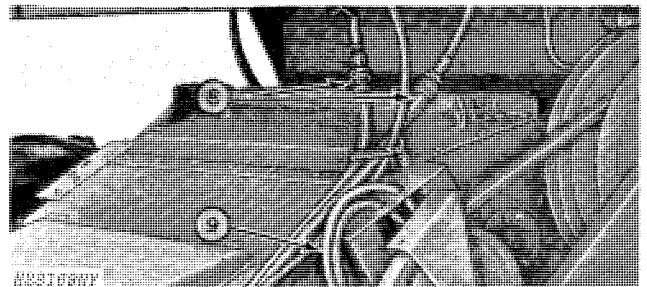

Fig. 84-Connecting and Routing Hoses
8. Connect hoses for reel lift and reel drive at couplers under operator's platform (Fig. 84).
9. To prevent damage to variable speed feeder house hoses when they are disconnected, route hoses down between feeder house and variable-belt-drive and secure with clamps (Fig. 84). Do not connect hoses together.